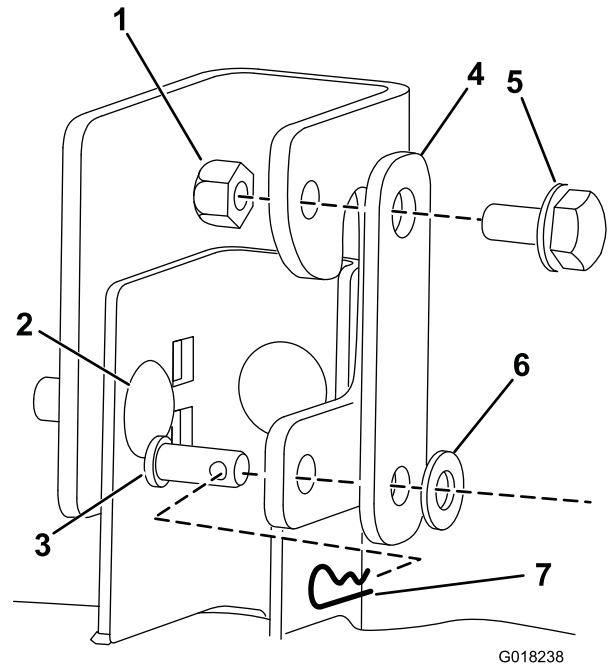

Figure 5
Note: Install the shoulder bolt through the upper hole in each hanger bracket (Figure 5).
6. Install a deck support bracket on each hanger bracket with a shoulder bolt and a locknut (Figure 5).